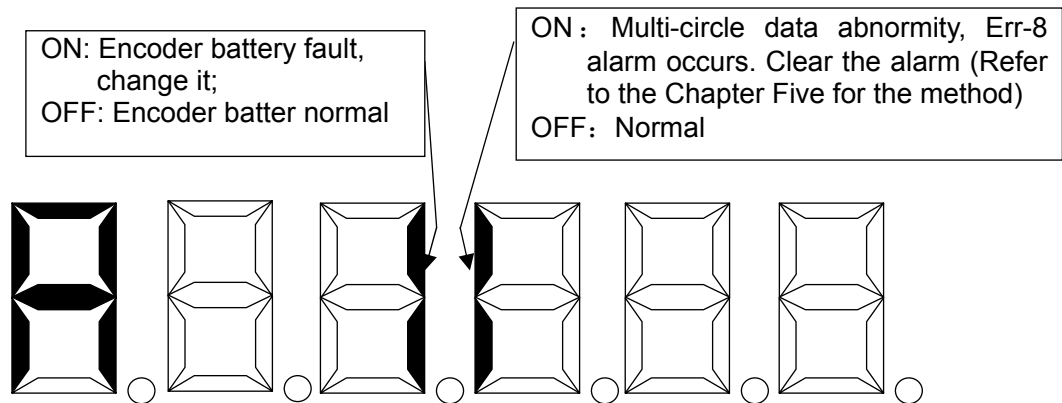

Fig. 4-3 Encoder using state display (ON: stroke point power-on, OFF: stroke point power-off)
**Note 9:** This menu records the current using state of the encoder, refer to the Fig. 4-3 for the